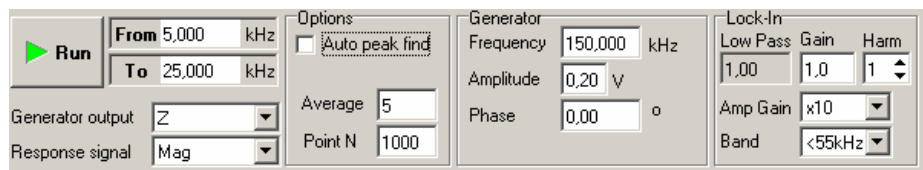

Fig. 3-54
Select “**Frequency**” parameter (Fig. 3-54), corresponding to one of the peaks.
To achieve this the generator voltage (“**Amplitude**” parameter) (Fig. 3-54), or the synchronous detector gain (“**Gain**” parameter) (Fig. 3-54) (photodiode signal gain) can be increased. Applying
- Change the generator voltage (“**Amplitude**” parameter) (Fig. 3-54), and the synchronous detector gain (“**Gain**” parameter) (Fig. 3-54);